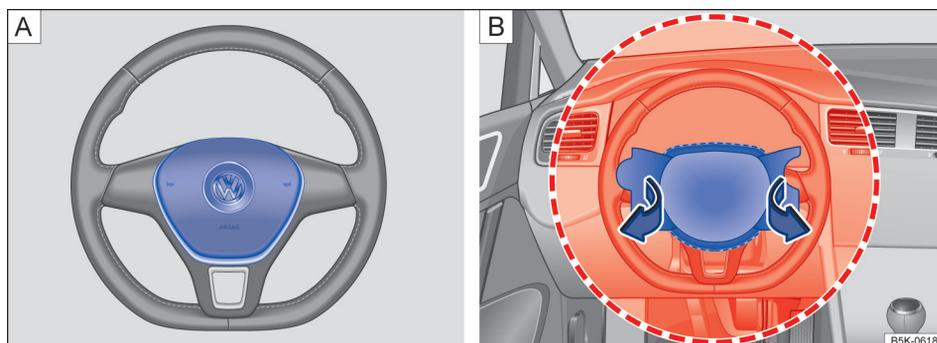
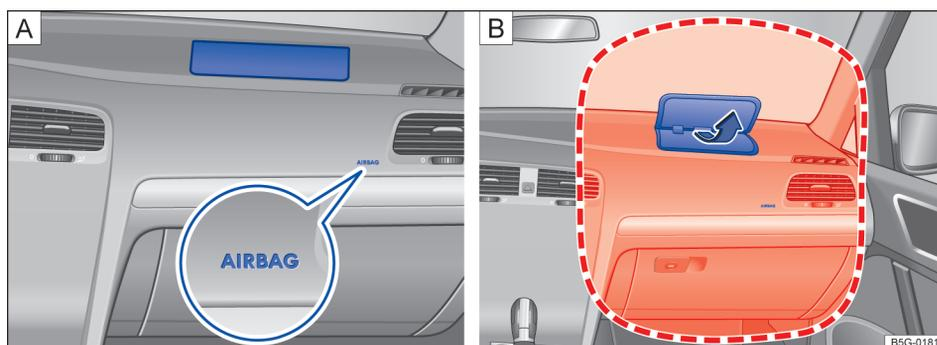

Fig. 34 Location and deployment zone of the driver front airbag.
Fig. 35 Location and deployment zone of the front passenger front airbag.
wheel hub → fig. 34 **A** and the airbag for the front passenger is in the instrument panel → fig. 35 **A**. The general location of the airbags is marked "AIRBAG."
The areas marked in red (dotted lines) → fig. 34  and → fig. 35  indicate the airbag deployment zone. Never place or attach accessories or other objects (such as cup holders, telephone brackets, note pads, navigation systems, large, heavy or bulky objects) on the doors, on the windshield, over or near the area marked in red (dotted lines).
- Never place accessories or other objects (such as cup holders, telephone brackets, notepads, navigation systems, or things that are large, heavy, or bulky) on the doors or attach them to the doors; never place them over or near the area marked "AIRBAG" on the steering wheel, instrument panel, or seat backrests, or between those areas and someone in the vehicle → fig. 34 and → fig. 35. Such objects could cause serious injury in a collision, especially if an airbag inflates.